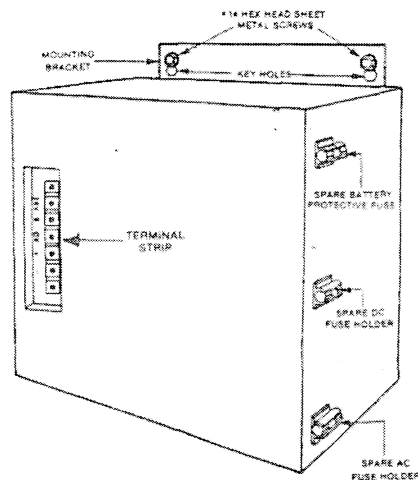

FIGURE 6
01.26 Align the EPSA mounting bracket's holes with the sheet metal screws as shown in Figure 6. Place the EPSA against the mounting surface with the screws protruding through the holes.
01.32 Place the spare 10 amp DC fuse in the center fuse storage clip located on the side panel of the EPSA (Figure 6).